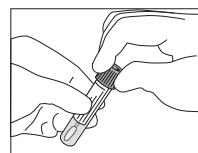

Fig. 3
- Replace the cap on the tube and close tightly (Fig. 3).